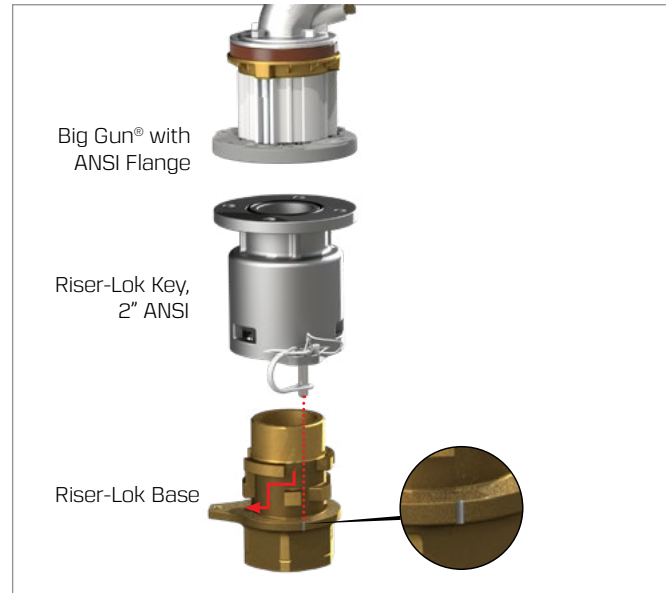

Fig. 1. BGC Key mounting to BGC Base.
2. The key slides over the base by aligning the locking pin with the notch in the base, then rotating into place (see **Fig. 1**). Use the wire-lock pin to secure the key to the base.